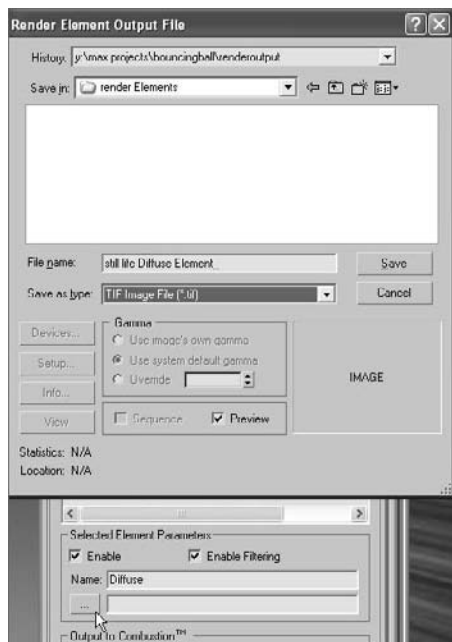

Figure 11.28
2. Once you select a render element, it will be added to the Element Rendering List. Then you'll need to go down to the Selected Element parameters to input where you will save the bitmap elements, as shown in Figure 11.28. The dialog box will name the element automatically. However, when you go into the Explorer window to save it, you should name it again.